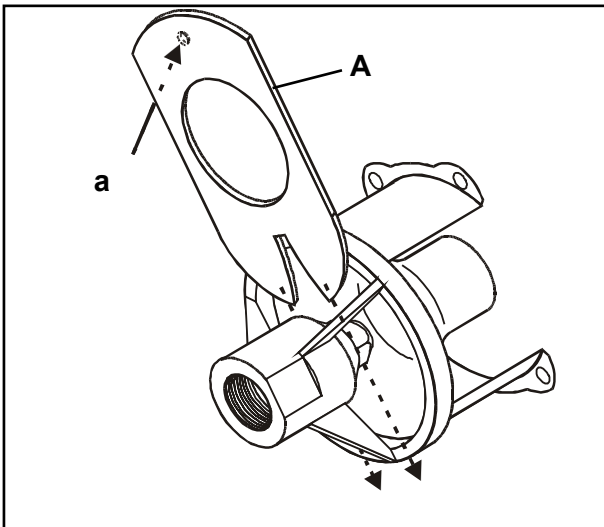

Fig. 9: Mounting of the air baffle plate
- ⇒ Push the new air baffle plate (A) on the connection part until the rib is between the two pointed ends and the nipple (a) notches behind the edge of the connection part (Fig. 9).